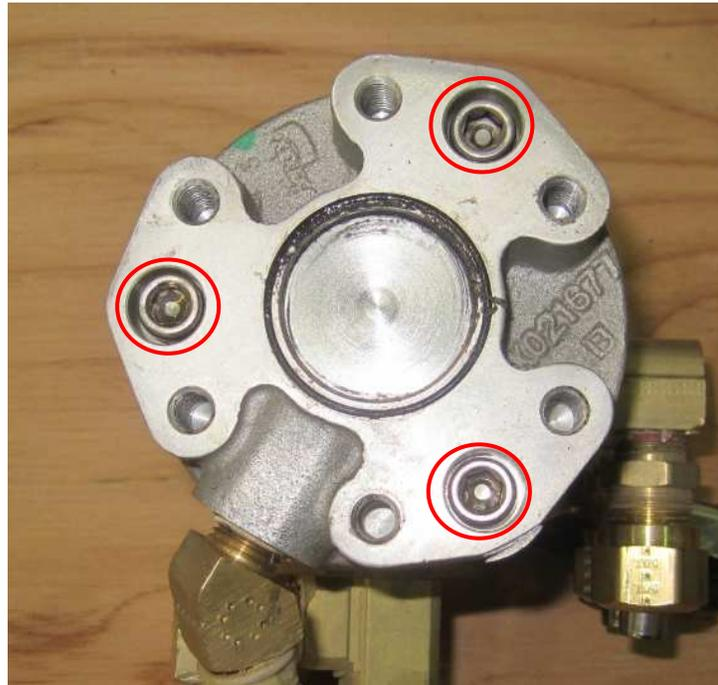
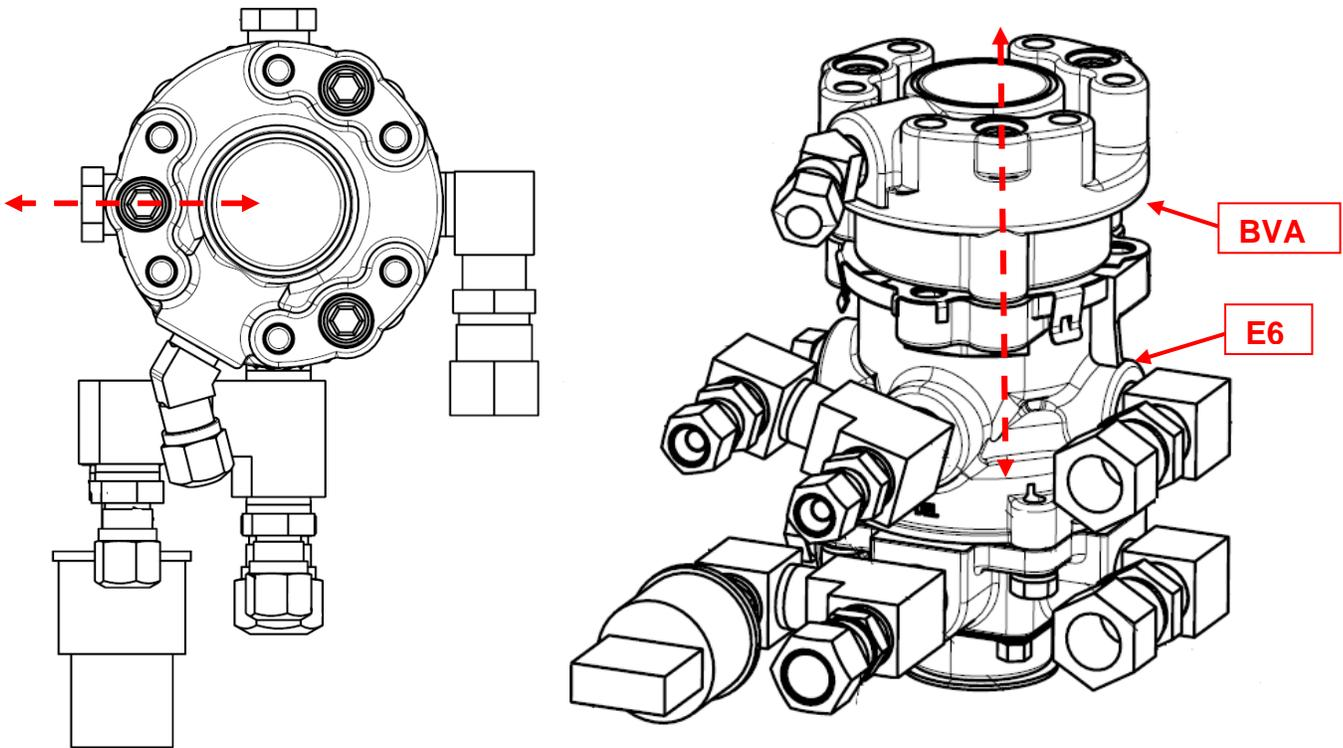

Figure 7: Remove BVA Valve
Figure 8: Replace BVA Valve
21. Remove three allen bolts which attach the BVA valve to the E6 treadle valve, see Figure 7. Retain the allen bolts for reuse.
24. Align a new BVA valve (PN: 477422) with the E6 valve as shown in Figure 8. Attach the BVA valve using the 3 allen bolts previously removed in Step 21, see Figure 7.